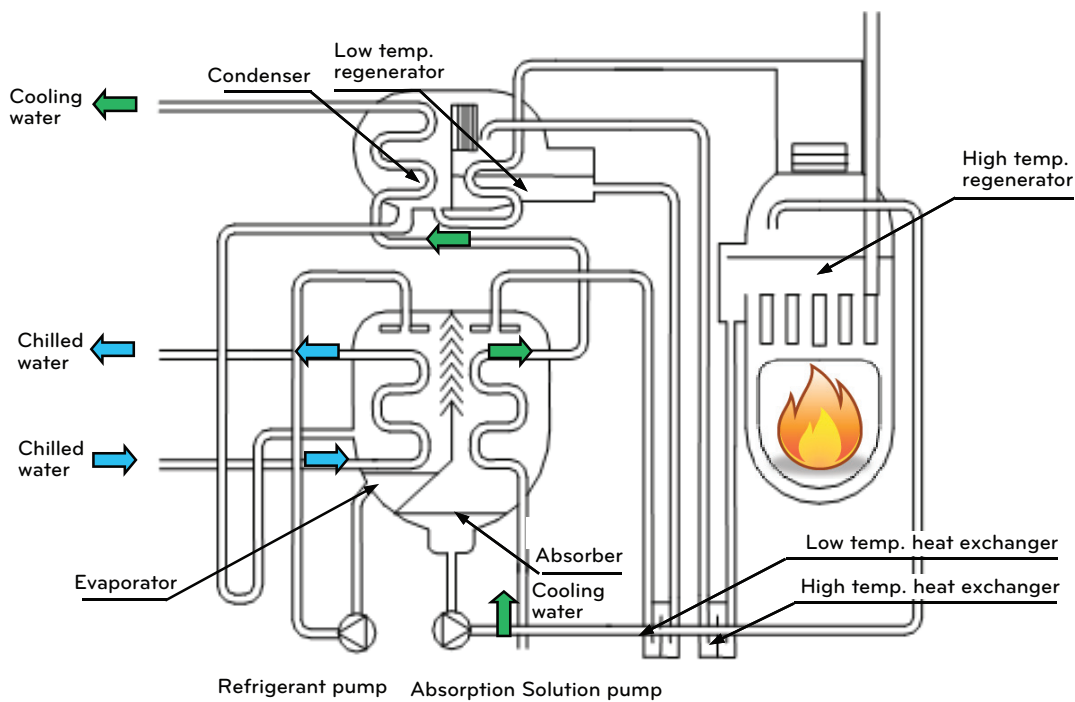

Figure 1-4. Basic cycle of absorption chiller-heater
- It is the principle of the chilled water production by an absorption chiller. (basic cycle of absorption figure 1-4)